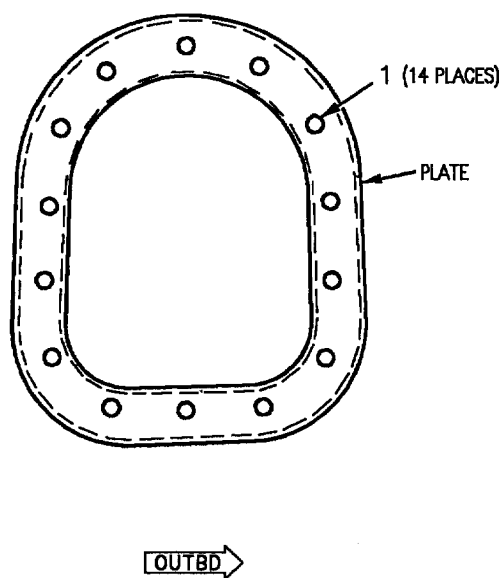

Figure 3. Cover 74A110850 Replacement (Sheet 1)
a. Cover (74A110850) is interchangeable. Fastener attaching hardware is on figure 3. For fasteners (A1-F18AC-SRM-410, FIG013 00).